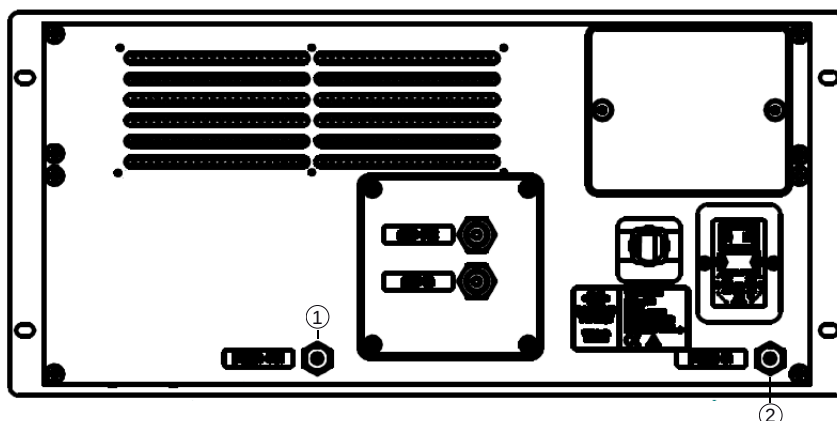

Figure 3.2: Purge gas inlet and outlet
3. Insert the connecting hose into the purge gas inlet (② figure 3.2).
6. To equalize the pressure, keep the purge gas outlet (① in figure 3.2) open to allow the gas to evaporate.